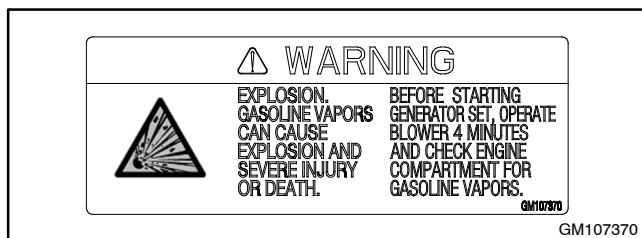

Figure 6 Decal
6. **For gasoline-powered generator sets**, select a location as near as practical to the generator remote digital gauge for mounting warning decal part number GM107370. See Figure 6. The decal should be visible when starting the generator set from the remote digital gauge. Before applying the decal, ensure that the surface is clean and dry.